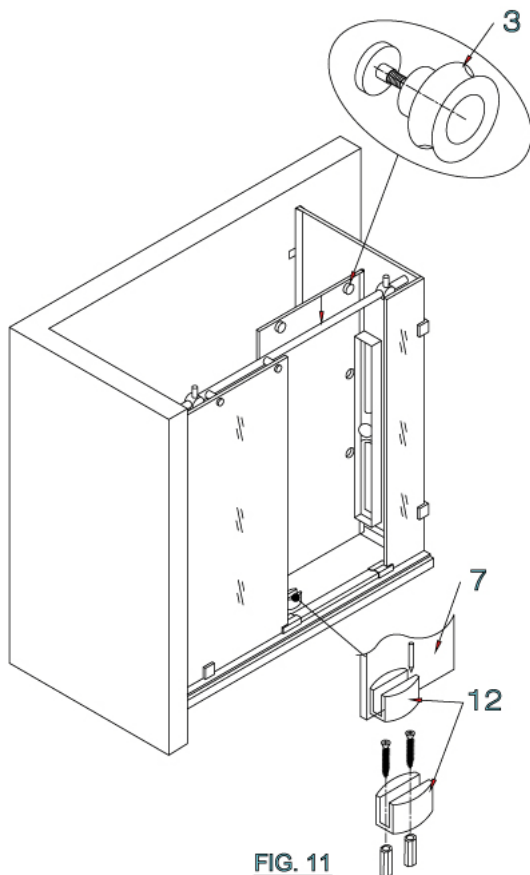

FIG. 11
2. Align the door to the structural rail (#14). [SEE FIG.11]